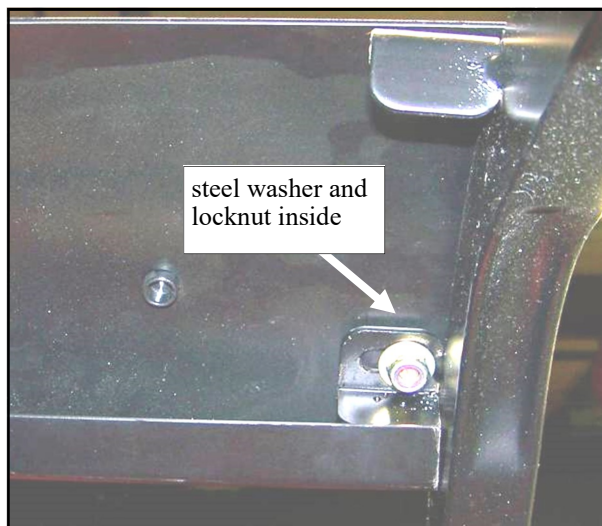

Fig. 6.1 (view from right rear side of tractor)
6.1 Per fig. 6.1, install the windshield support to the top front corner of the side frames. Orient the windshield support as shown and use the following hardware in the lower hole on each side (note: the remaining holes will receive hardware when the roof is installed): one 5/16" x 1" long button head bolt, one plastic washer, two steel washers, and one locknut. Locknuts to be on the inside of the cab. Repeat for opposite side. Align the edges of the windshield support with the outside of the left and right side frame and tighten these two bolts at this time.